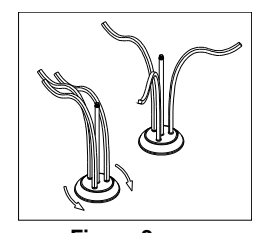
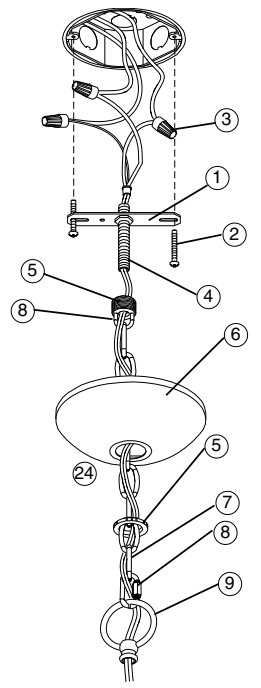
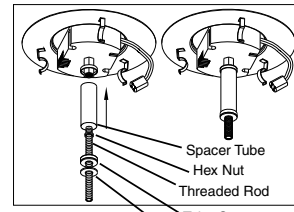

Figure 2
Figure 4
Figure 3
2. Rotate arms outward until even. See Fig. 2
4. Install Loop (9) onto protruding thread on top of Housing Assembly (13) securely.
5. Install Diffuser Spacer Assembly (17) to bottom of Housing Assembly (13) by screwing into place. Assembly should be oriented with foam washer facing down. See Fig. 3.
6. To install top Glass Panels (12), remove Ball Stud Finials/Washers (11) from backplate of Housing Assembly (13). Place Glass Panels (12) on backplate and align with mounting holes. Reinstall Ball Studs/Washers (11) 2 per glass panel. To avoid breaking glass, do not over tighten Screw studs.
7. Assemble mounting hardware: Thread Threaded Pipe (4) about 1/2" into center hole of Crossbar (1). Hold short end of Threaded Pipe (4) and place Canopy (6) over opposite end (Note Crossbar will be inside of canopy). Thread Canopy Loop/Nut (5), attached to end of chain, onto end of Threaded Pipe. See Figure 4.
8. To determine desired length of chain use Lockable Link (8) and hook Chain (7) temporarily to Loop (9). Hold fixture up to ceiling to determine desired length of Chain and remove links if needed. Note Use pliers to remove links to adjust Chain to desired length or call Technical Support to purchase additional chain. Attach end link of Chain (7) to Loop (9) with Lockable Link (8). Route the ground & fixture supply wires through every fourth link of chain and through center of 1-1/2" Threaded Pipe (4) in Crossbar (1). Trim ground & fixture supply wires to extend approximately 6" beyond Threaded Pipe and strip 1/2" insulation from ends of wires. See Figure 4.
9. Take fixture assembly by the Chain (7), loosen Canopy Nut (5) completely and slide Canopy (6) down. Have one person help to support fixture while mounting Crossbar (1) to junction box with two 1-1/2" Screws (2). See Figure 4.
11. Use Wirenuts (3) to connect brown wire to the black power supply wire and brown ribbed fixture wire to the white power supply wire. See Figure 4.
2. Gire los brazos hacia afuera hasta que estén nivelados. Vea Fig. 2.
4. Instale el Lazo (9) en el roscado saliente de encima del Ensamblaje de la Carcasa (13) asegure apretadamente.
5. Instale el Ensamblaje Espaciador del Difusor (17) al fondo del Ensamblaje de la Carcasa (13) enroscándolo en su lugar. El Ensamblaje debe estar orientado con arandela de espuma mirando hacia abajo. Vea Fig. 3.
6. Para instalar los paneles de vidrio superiores (12), quite los Arandela/Finial de Esfera (11) de la placa trasera del Ensamblaje de la Carcasa (13). Coloque los Paneles de Vidrio (12) en placa trasera y alinéelos con los agujeros de montaje. Vuelva a instalar los Finials (11) 2 en cada panel de vidrio. Para evitar que se rompa el vidrio- no sobre-apriete los Finials.
7. Ensamble el herraje de montaje: Rosque el Tubo Roscado (4) alrededor de 1/2" en agujero de centro de la Barra Transversal (1). Sostenga el extremo corto del Tubo Roscado y coloque el Espaciador de Sobrecielo (6) sobre el extremo opuesto (Nota La Barra Transversal estará dentro del Espaciador de Sobrecielo). Rosque la Tuerca de Lazo del Espaciador de Sobrecielo (5), la cual esta sujeta al extremo de la cadena, al extremo del Tubo Roscado. Vea Fig. 4.
8. Para determinar la longitud deseada de la cadena use el Eslabón de Cierre (8) y enganche la Cadena (7) temporalmente al Lazo (9). Sostenga el luminario hasta el techo para determinar longitud deseada de la Cadena y si necesario, quite eslabones. Nota Use alicates para quitar los eslabones y ajustar la Cadena a la longitud deseada o llame a Soporte Técnico para comprar cadena adicional. Sujete el eslabón final de la Cadena (7) al Lazo (9) con el Eslabón de Cerradura (8). Encamine los alambres de tierra y de suministro de electricidad del luminario a través cada cuarta eslabón de la cadena y por el centro del Tubo Roscado de 1-1/2" (4) en la Barra Transversal (1). Corte los alambres de hacer tierra y los de suministro eléctrico del luminario para que extiendan aproximadamente 6" más allá de Tubo Roscado y quite 1/2" del material aislante del extremo de los alambres. Vea Fig. 4.
9. Agarre el ensamblaje del luminario por la Cadena (7), suelte la Tuerca del Espaciador de Sobrecielo (5) totalmente y deslice el Espaciador (6) hacia abajo. Haga que una persona ayude a sostener el luminario mientras este montando la Barra Transversal (1) a la caja de ensambladura con dos Tornillos de 1-1/2" (2). Vea Fig. 4.
11. Use Capuchones de Alambres (3) para conectar el alambre marrón o transparente del luminario al alambre de suministro de energía negro y del luminario acanalado marrón o transparente al de suministro de electricidad blanco. Vea Fig. 4.